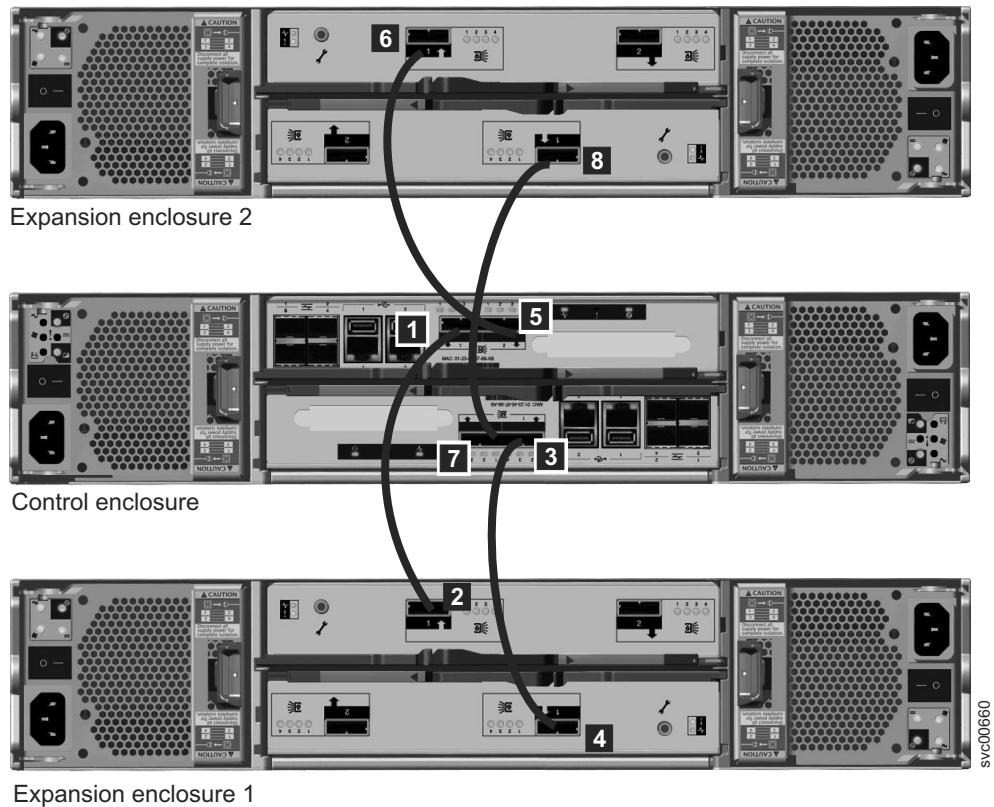

Figure 32. Adding a second expansion enclosure
3. Attach the SAS cables from the control enclosure to the second expansion enclosure as shown in Figure 32 on page 28. The second expansion enclosure is above the control enclosure.